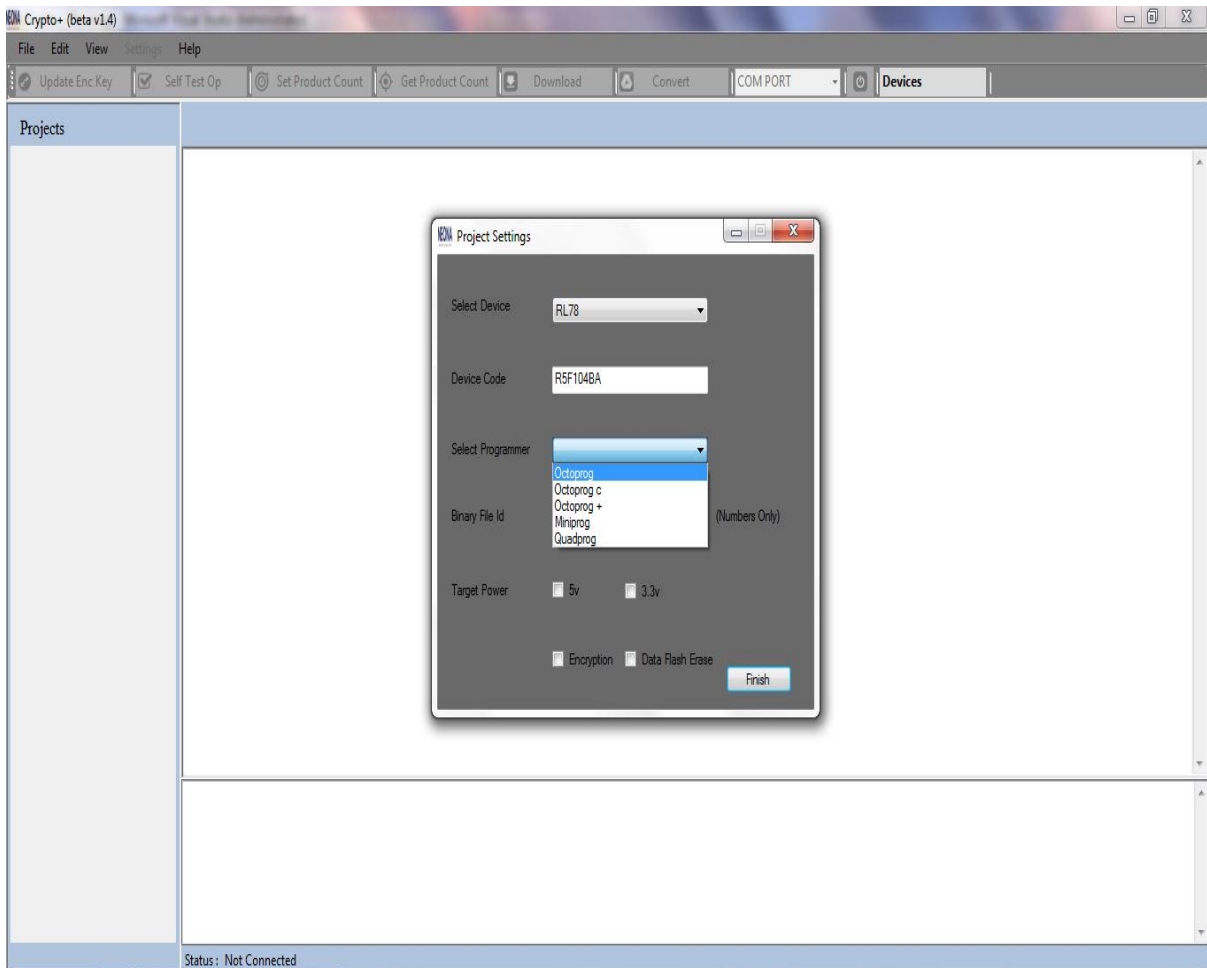

Figure 2.16
STEP 7: Select Programmer- A list of supported programmers will be shown in the Select Programmer field as shown in figure 2.16. Select the programmer that you want.